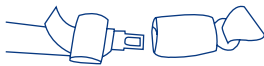

Fig. 41-2
- A **manually adjusted** lap seat belt is tightened by pulling on the free end of the seat belt while pushing down hard on the Safety Seat or Base. If you experience difficulty tightening the seat belt, unbuckle the seat belt, tighten the seat belt a small amount and re-buckle the seat belt. Repeat this procedure until the seat belt is very tight around the Safety Seat or base. Check that the seat belt remains very tight around the Safety Seat or base. (Fig. 41-2)